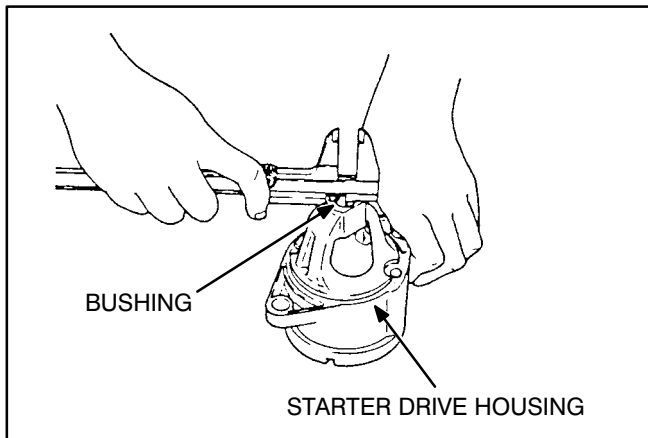

FIGURE 6-31. MEASURING BUSHING I.D.
1. Check continuity across the yoke and brush with an ohmmeter (Figure 6-31). If continuity is not measured, replace the yoke assembly.
1. Measure the bushing I.D. on the front and rear bushing (Figure 6-31).